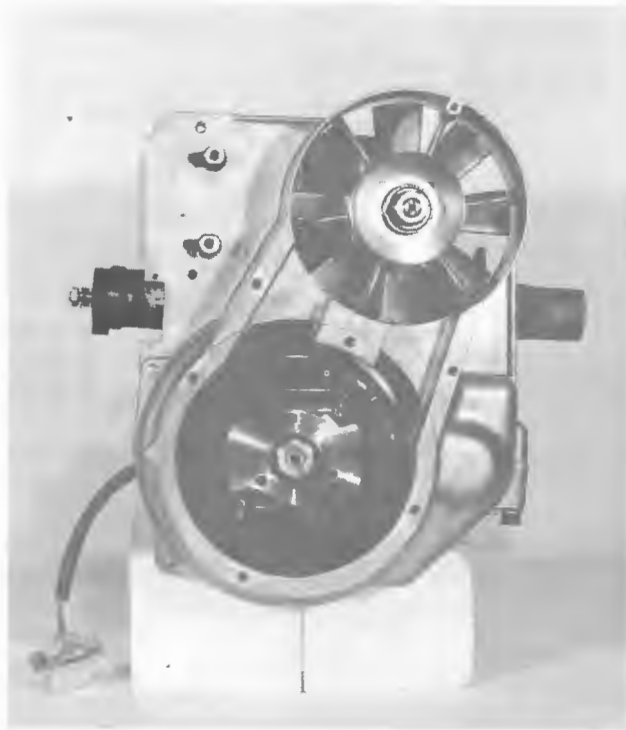

FIGURE 3-4 STARTER CAP AND FAN BELT REMOVED
- h. Remove the three bolts securing starter cup, fan belt pulley and window plate to flywheel. Pull outward and up on pulley to remove from flywheel. Remove fan belt. Figure 3-4